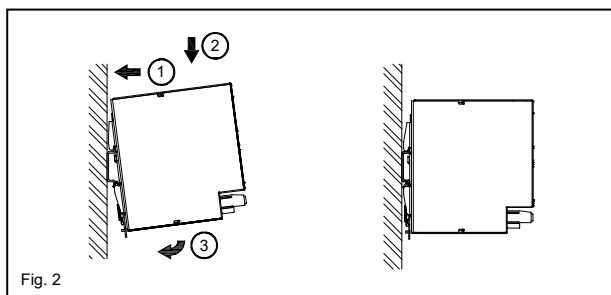

Fig. 2
3. Mounting (Fig. 2)
Snap on the DIN rail as shown in Fig. 2: